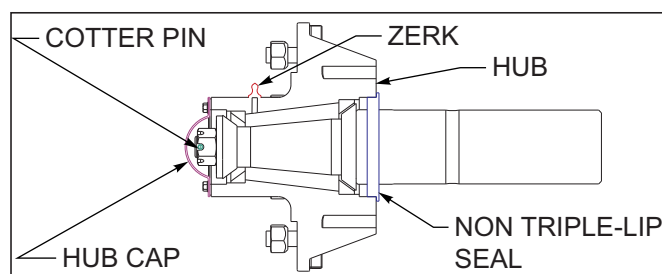

Figure 5-1: Non-Triple Lip-Seal
10. Install the cotter pin, dust cap and gasket *See Figure 5-1.*